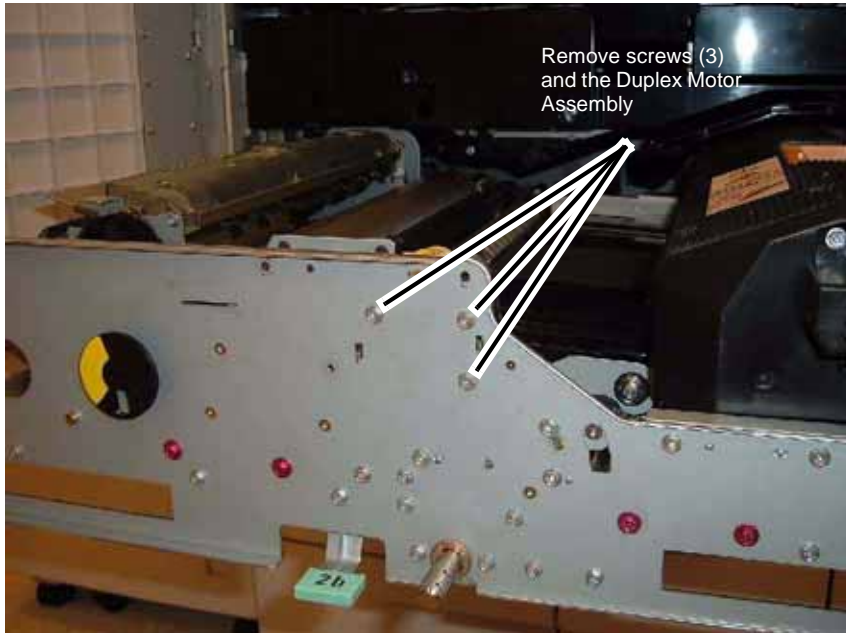

Figure 7 Removing the Duplex Motor Assembly
8. Remove the Bypass Motor Assembly (Figure 7).